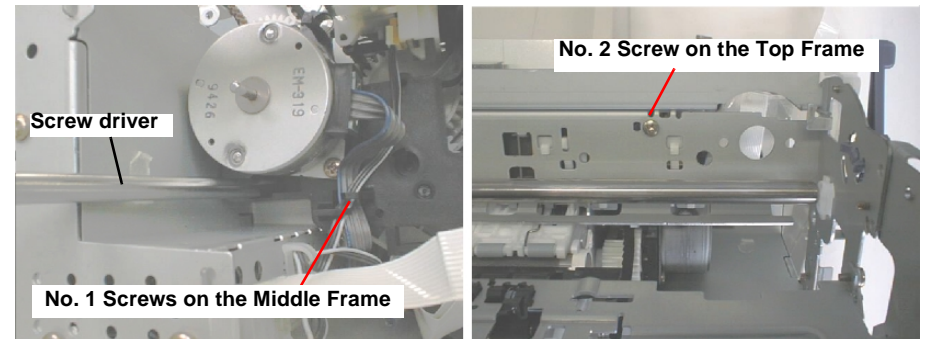

Figure 4-24. Removing the DE Assembly
- 10) Remove two screws (No.1 & No. 3) securing the DE unit. Refer to Figure 4-24.